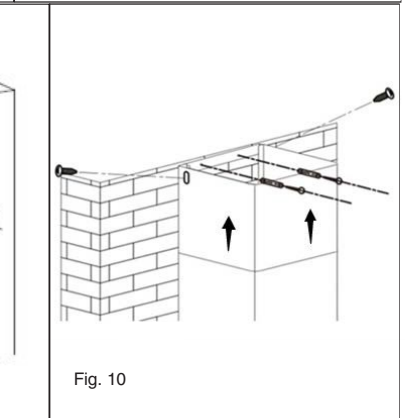

Fig. 10
- Then pulling out the upper chimney upwards to the target height. Adjust to reach the height required. Fix the upper chimney on the upper chimney bracket by 2 screws (4x8mm). Then fix the upper chimney bracket on the wall. Before fixing the bracket on the wall, you can decide the upper chimney bracket fixing holes for installation (Fig. 10)